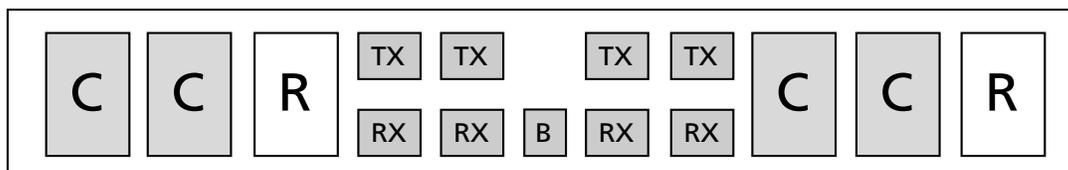

Figure 1-4 • AX SuperCluster
Two C-cells, a single R-cell, and two Transmit (TX) and two Receive (RX) routing buffers form a Cluster, while two Clusters comprise a SuperCluster (Figure 1-4 on page 1-3). Each SuperCluster also contains an independent Buffer (B) module, which supports buffer insertion on high-fanout nets by the place-and-route tool, minimizing system delays while improving logic utilization.